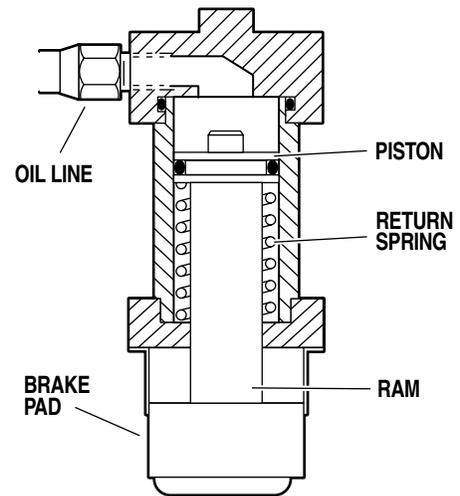

Figure 1-15. Single Action Brake Cylinder
5. Brake Cylinders - The brake cylinders are single action type similar to the elevation cylinder. The movable piston's ram is connected to a brake pad. See figure 1-15. Oil pumped into the top of the cylinder pushes the piston down raising the table base off its casters. An internal return spring on the bottom of the piston, pushes the piston up to return the oil through the mini-valve to the reservoir.